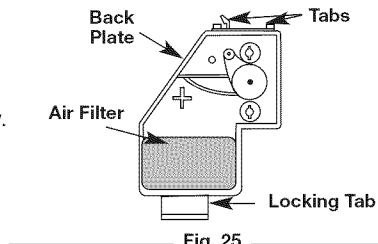

Fig. 25
- Remove the air filter (Fig. 25).
- Replace the filter (Fig. 25).